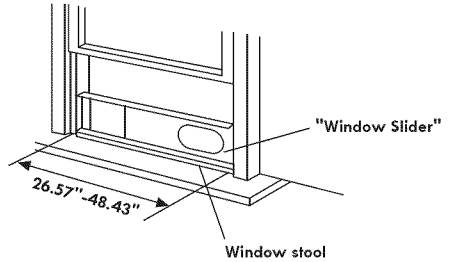

Fig.9
2. Place the window slider onto the adhesive foam seal (see Fig. 9). Adjust window slider width according to the instructions on page 8.